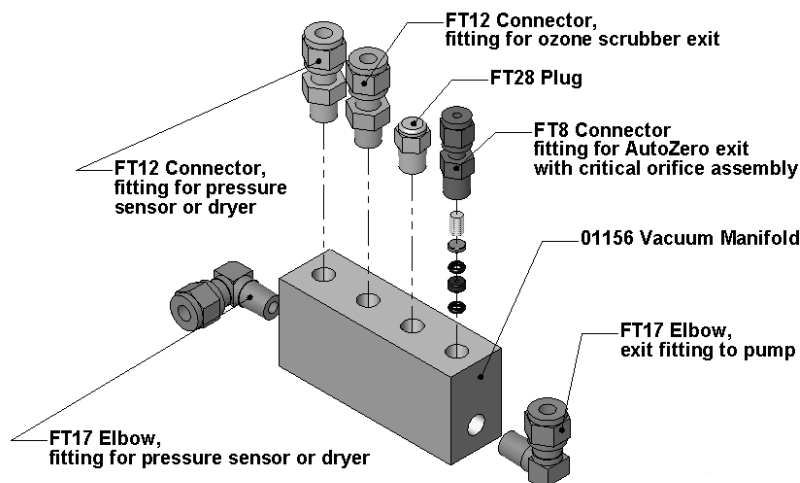

Figure 10-10: Vacuum Manifold, Standard Configuration
- Vacuum manifold, AutoZero exit (Figure 10-10)
- Vacuum manifold, IZS exit (if installed (Figure 10-10)
The vacuum manifold is the central exit port for all analyzer pneumatics. All gas streams of the analyzer exit through this assembly and connect to the instrument's pump. Figure 10-10 shows the standard configuration. Configurations will vary depending on the optional equipment that is installed. An IZS option, for example, will add another FT8 connector and orifice assembly to the manifold, an optional sample dryer may add a Tee-fitting so that two 1/4" tubes can be connected to the same port shown in the figure.